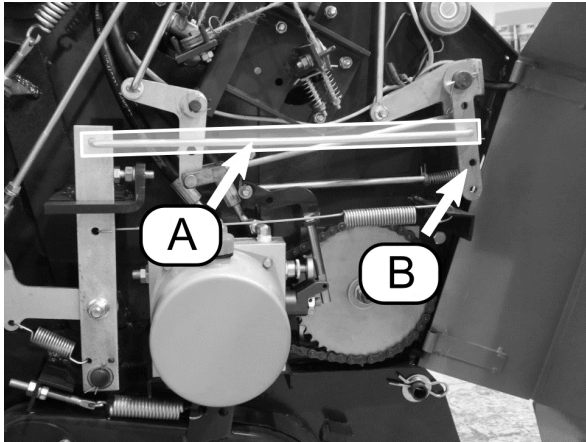

Figure 29 Right side of baler
- 1) In most cases the outer rod (Figure 29, A) can be moved to a different hole in the front adjustment plate (B). For **lower density** bales, move the rod to an **upper hole**. For **higher density** bales, move the rod **downward**.